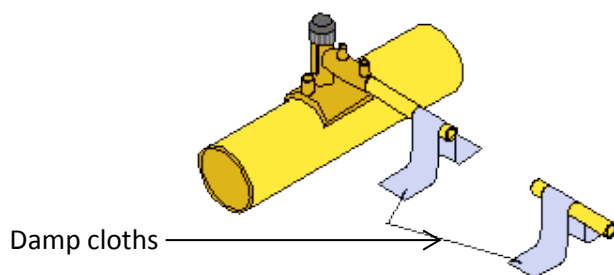

Figure 32 - PE service cut off
4. Drape damp cloths over the section to be cut out ensuring that the ends of the cloth are in contact with the ground. Refer to Figure 32.